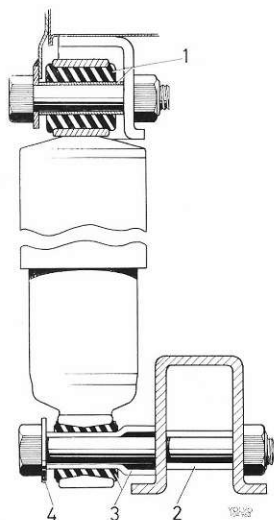

Fig. 7-9. Attachment, rear absorber
The rear shock absorber attachment (Fig. 7-9) consists of eyelets provided with rubber bushes (1 and 3) which cannot be dismantled. These absorbers are bolted at the top the rear side-members and at the bottom to the support arms.
2. When fitting make sure that the spacing sleeve in the support arm has not been removed (2, Fig. 7-9). Fit and tighten the shock absorber. Fit the wheel and wheel nuts. Lower the vehicle. Put on the hub cap.
NOTE. Check that the spacing sleeve and washers are placed correctly, see Fig. 7-9. Remove the props from under the vehicle and lower it.